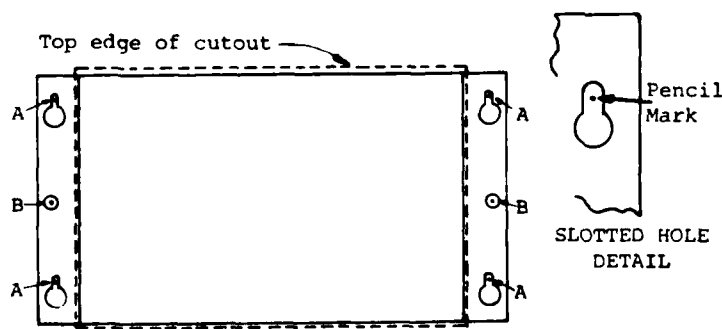

FIGURE 2 - MARKING
2. Place housing in opening and hold it against bottom edge of cutout. Using the flanges as templates, mark the wall with a pencil through the six holes as shown in figure 2. Mark the four slotted holes at the top of the hole in small section (see detail).